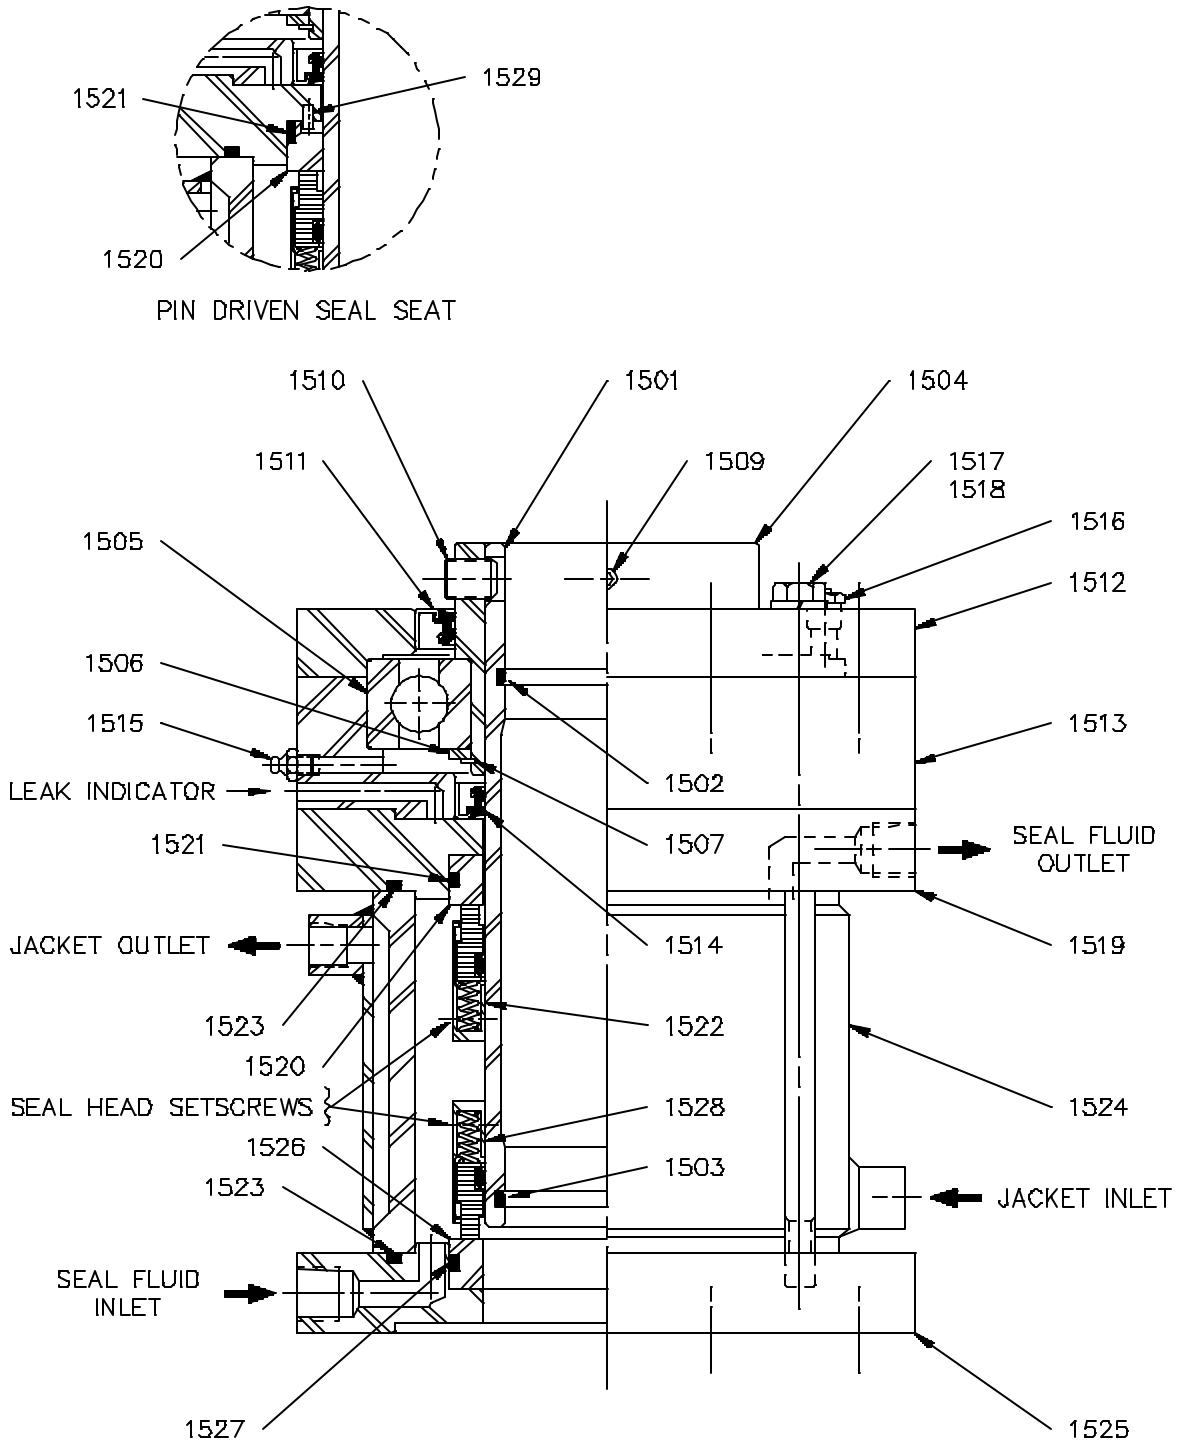

Figure 33: HTN Mechanical Seal Cartridge (Unbalanced Seals)
Mechanical Seal Cartridge Disassembly (Figures 33 and 34, pages 83 and 84)
Mechanical Seal Cartridge Assembly (Figures 33 and 34, pages 83 and 84)
10. For unbalanced seals only (*Figure 33, page 83*), install a new or rebuilt upper seal head **[1522]** on seal sleeve **[1501]**. Tighten the setscrews over the original setscrew marks. If the setscrew marks are not visible, refer to the unit seal assembly drawing for the set dimension.